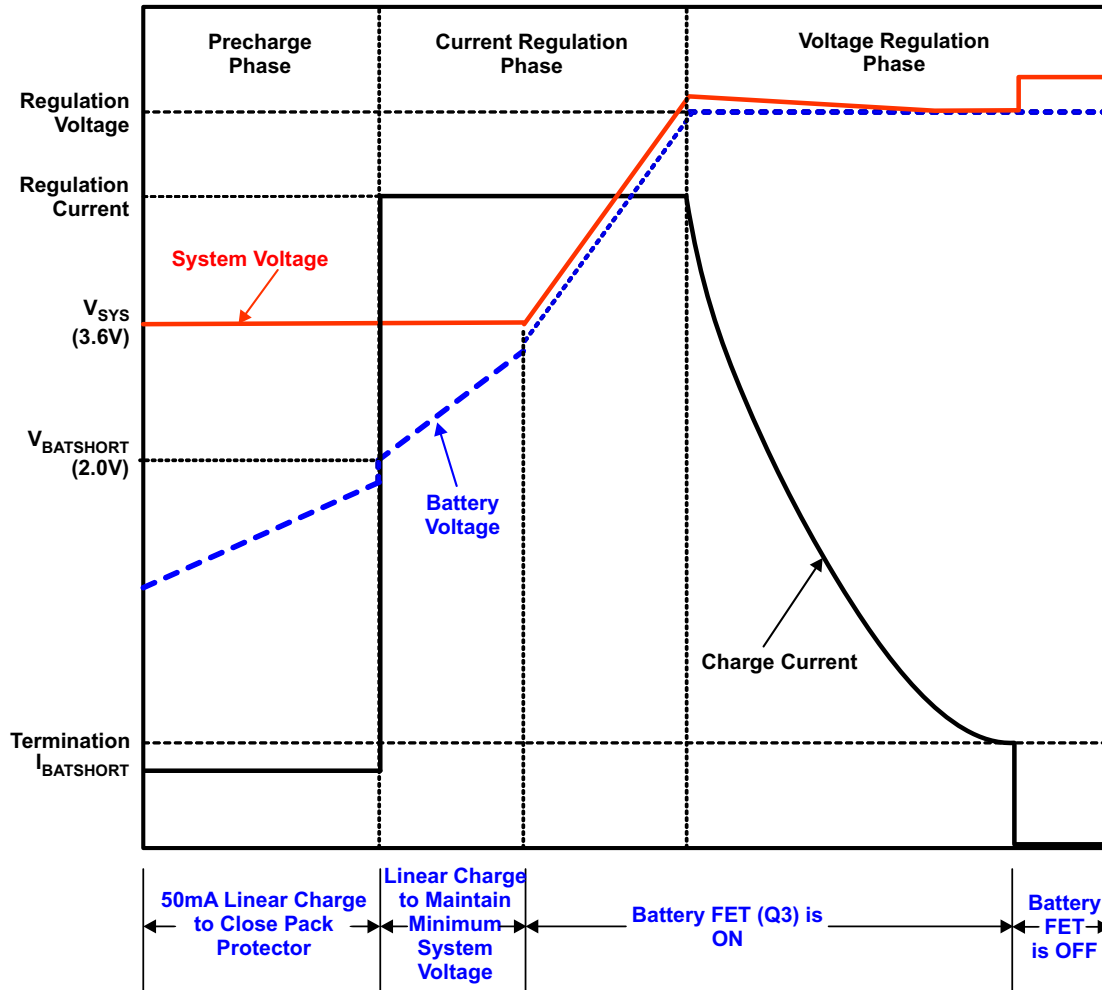

Figure 10. Typical Charging Profile of bq24260/1/1M/2 With Termination Enabled
The bq24260/1/1M/2 supports a precision Li-Ion or Li-Polymer charging system for single-cell applications. Charging is done through the internal battery MOSFET. There are 6 loops that influence the charge current; constant current loop (CC), constant voltage loop (CV), thermal regulation loop, minimum system voltage loop (MINSYS), input current limit and V_{IN-DPM} . During the charging process, all six loops are enabled and the one that is dominant takes control. The minimum system output feature regulates the system voltage to $V_{SYSREG(LO)}$, so that startup is enabled even for a missing or deeply discharged battery. Figure 10 shows a typical charge profile including the minimum system output voltage feature.
Once the battery is charged enough that the system voltage rises above $V_{SYSREG(LO)}$ (approximately 3.5 V), the battery FET is turned on fully and the battery is charged with the full programmed charge current set by the I²C interface, I_{CHARGE} . The charge current is regulated to I_{CHARGE} until the voltage between BAT and PGND reaches the regulation voltage. The voltage between BAT and PGND is regulated to V_{BATREG} (CV mode) while the charge current naturally tapers down as shown in Figure 10. During CV mode, the SYS output remains connected to the battery. The impedance of the battery FET is increased to 4x of the fully on value when IBAT falls below approximately 350 mA to provide increased accuracy during termination. This will show a small rise in the SYS voltage when the $R_{DS(ON)}$ increases below approximately 350 mA.